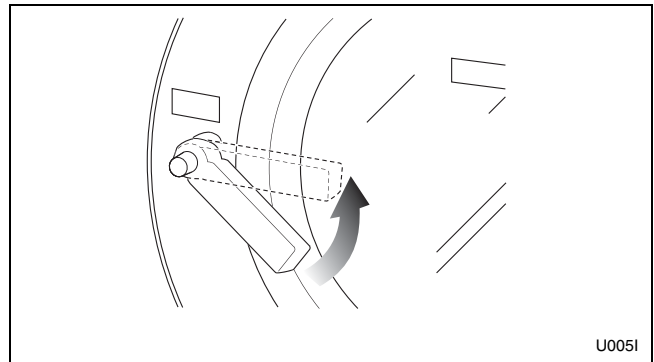

Figure 12
5. Close door and turn handle counterclockwise until button pops out. Refer to *Figure 12*.